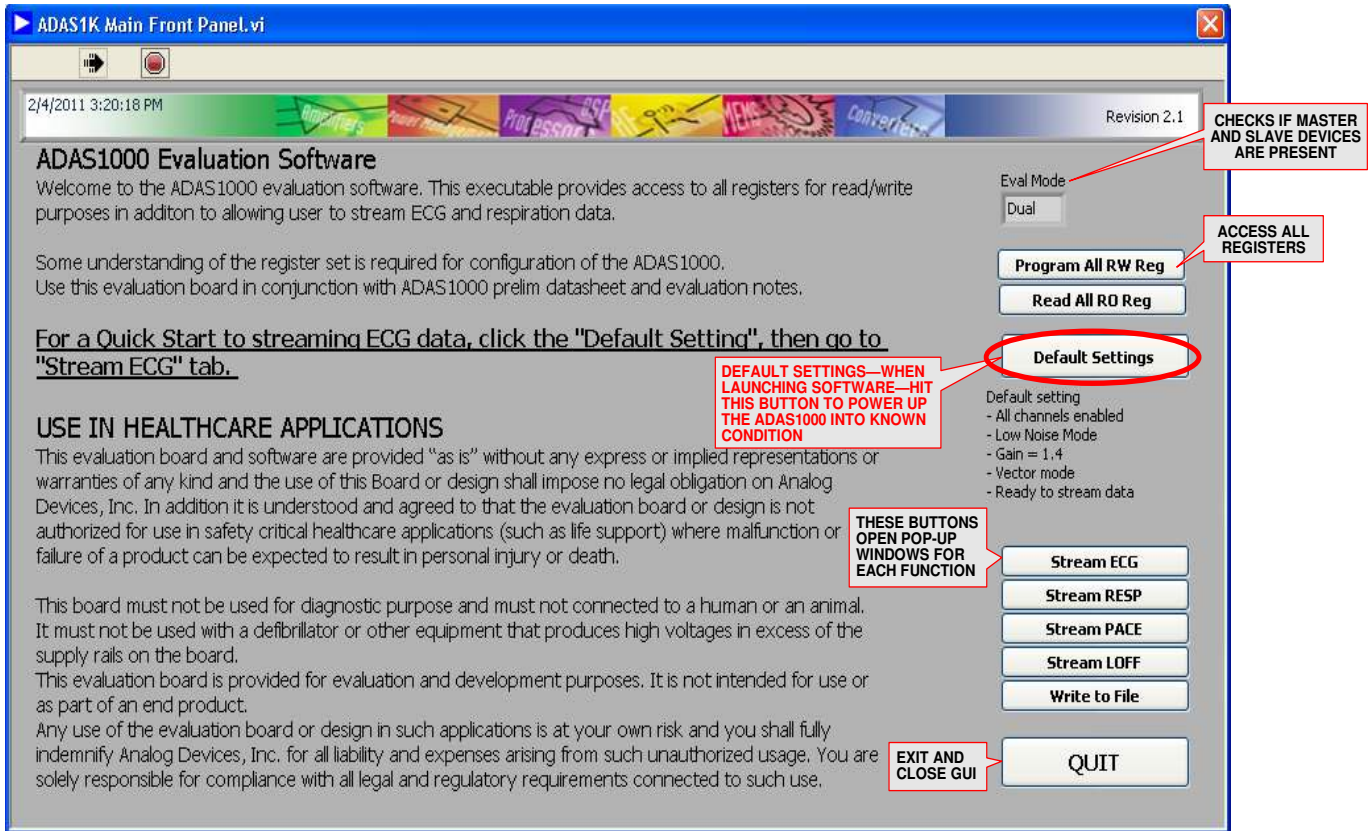

Figure 13. Main Evaluation Board Control Window
1. Launch the ADAS1000 software. The main panel shown in Figure 13 opens.
When the software is launched, the main window of the EVAL-ADAS1000SDZ software opens, as shown in Figure 13.